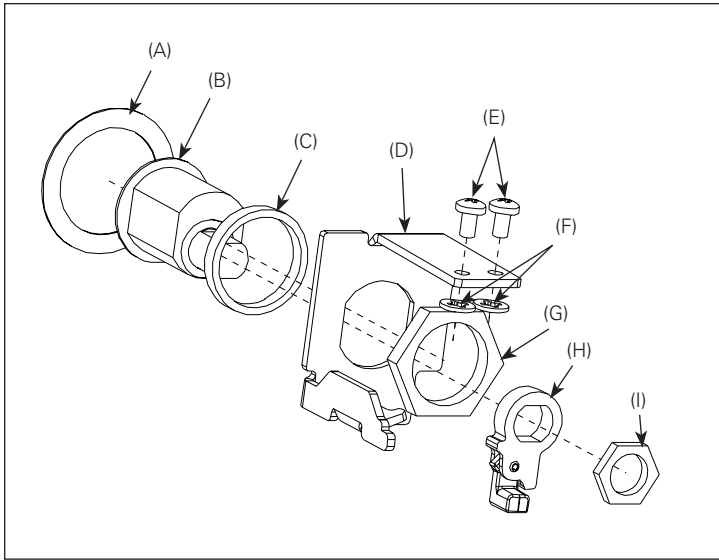

Figure 1. Contents of Kit
Refer to **(Figure 1)** for visual identification of the parts listed below:
**Step 4:** Refer to (Figure 1) for assembly orientation. Mount the Lock (B) to the Mounting Bracket (D). Secure it in place with the Large Locking Nut (G). Ensure that the large locking nut is firmly tightened.
**Step 5:** Install the Key Lock Lever (H) onto the back of the lock and secure it in place with the Small Locking Nut (I). Ensure that the small locking nut is firmly tightened. Three different assembled lock orientations are presented here for reference purposes.